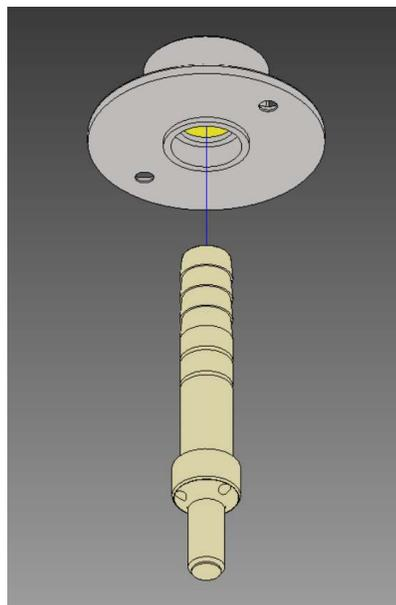

FIGURE F. 9. – STEM REMOVAL
9. Remove the wetted stem (see Figure F.9.).